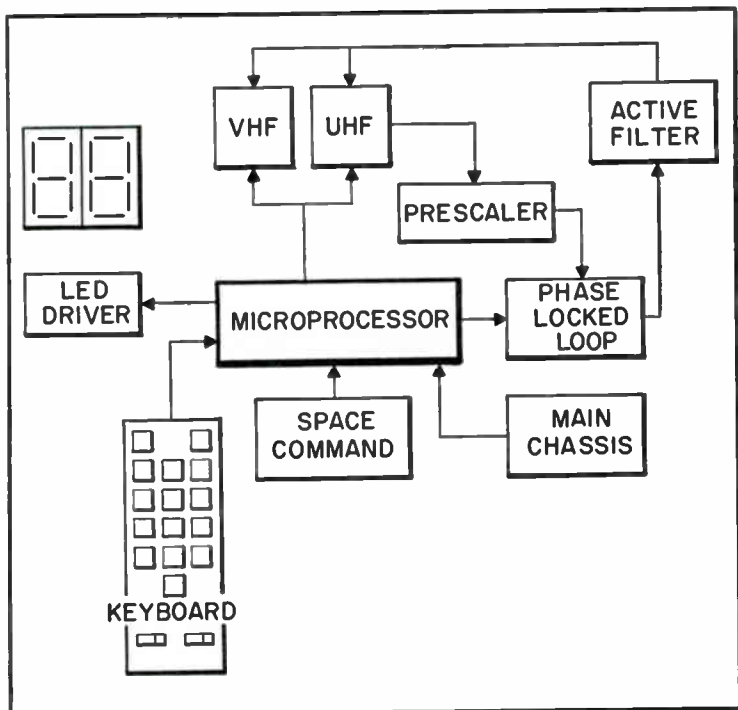

Fig. 1-3. Functional block diagram of direct access system.
- It controls the operation of a phase-locked-loop IC which results in precise control of the tuner oscillator frequency. See Fig. 1-3.